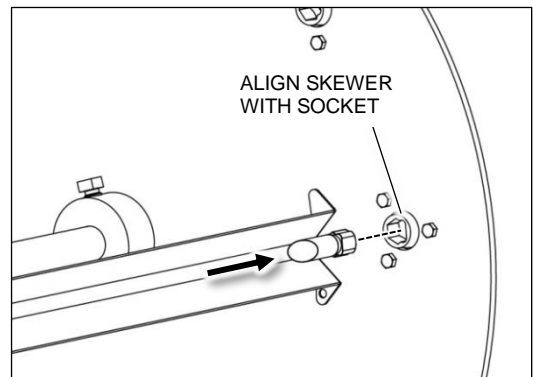

Figure 4-5
2. Align the other end of the skewer with the corresponding socket and push into place (see Figure 4-5).